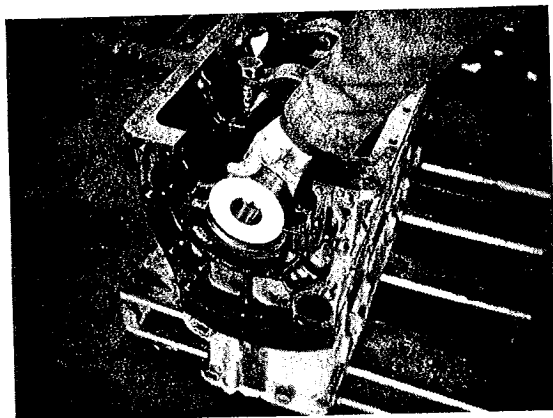

FIG. 2 INSTALLING CENTERING RING
1. Install the appropriate centering ring (from your Line Bore Bar) in the #1 main bearing and the thrust bearing saddle. The centering ring in the thrust saddle should be centered in the saddle such that it will clear the cutter holder when cutting the thrust bearing surface. See Fig. 2.